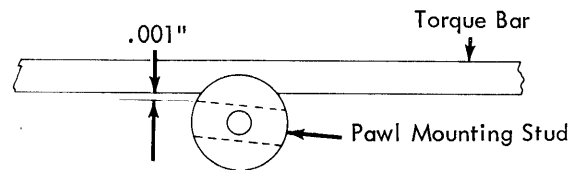

FIGURE 148. Pawl Mounting Stud Adjustment
3. Pawl Mounting Stud - Rotate the pawl mounting stud so that it clears the escapement torque bar by .001" at the closest point along the writing line (Fig. 148). Keep the high part of the eccentric toward the left so that the force of the torque bar will tend to tighten the stud instead of loosen it.